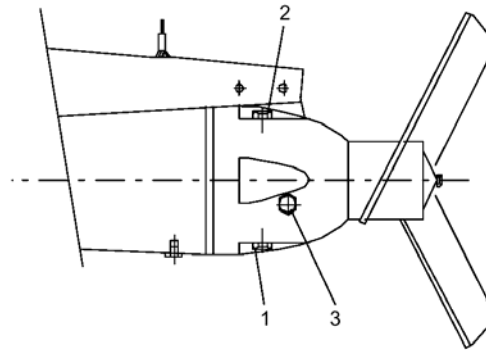

Fig. 17
Before starting up the mixer or flowmaker, the oil level in the gearbox/shaft seal housing must be checked. Remove the oil level screw (pos. 3, fig. 17) and check the oil filling hole (pos. 2).